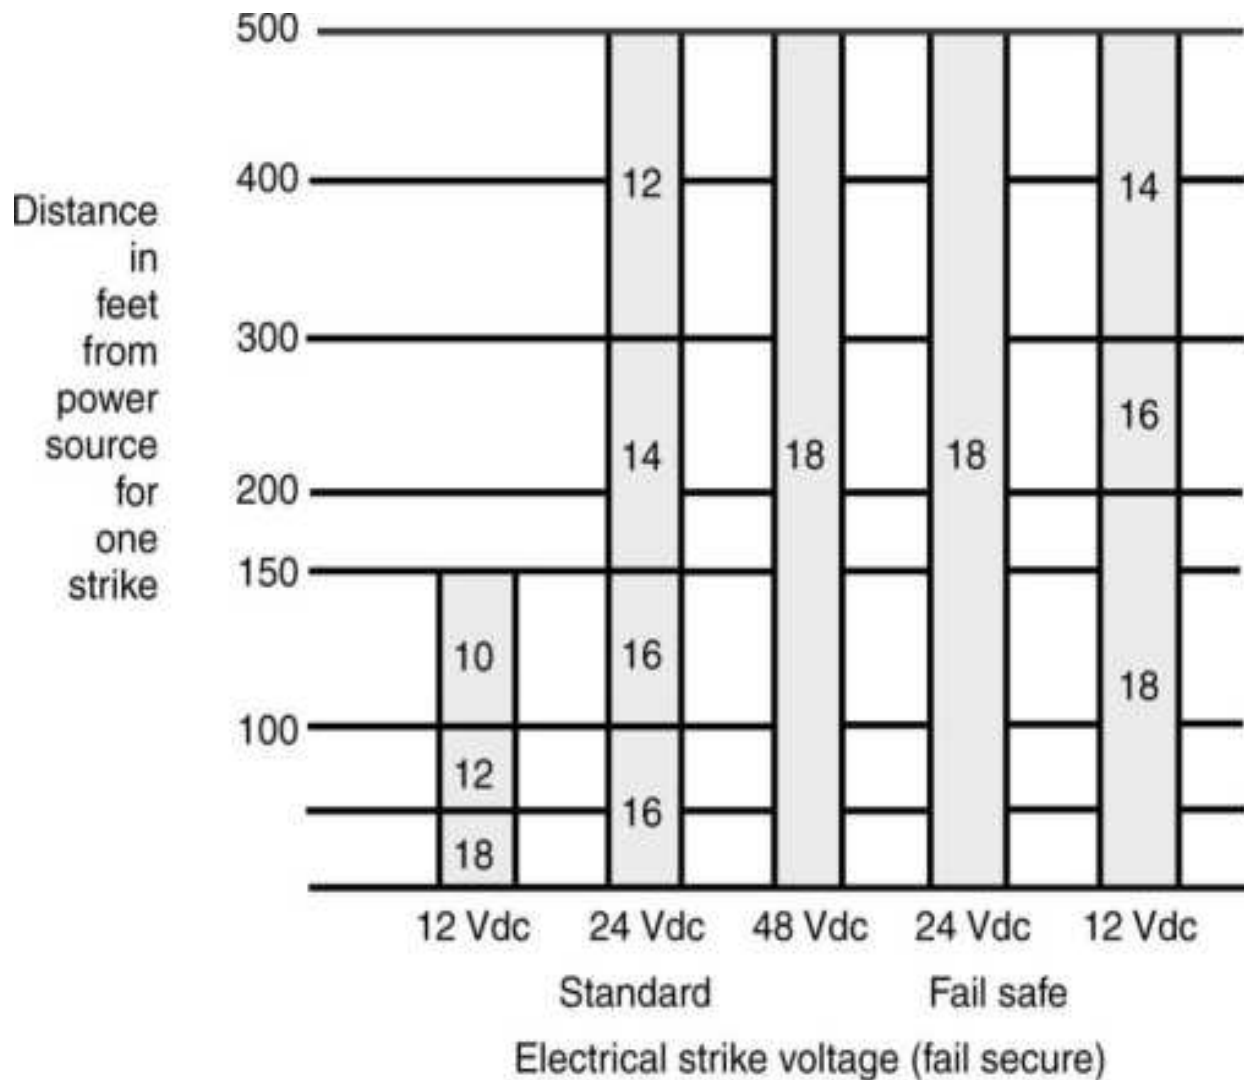

**Figure 19.29** Electrical strike voltage (fail-secure mode of operation). (Trine Consumer Products Division, Square "D" Company)
Due to the remote control applications for electrical strike units, there can be a considerable distance between the strike location and the actual control for that particular strike. Figure 19.29 shows the *minimum* wire sizes required for standard and fail-safe electrical strike unit voltage at various distances.
**After installation, the strike does not operate even if the power is left on for 1 minute (maximum time) and the strike is noticeably warm.** *Probable cause:* (1) Static loading against the door is excessive due to weatherstripping, a warped door, wind loading on the door, or improper jamb preparation.
*Probable cause* : (2) Insufficient voltage is reaching the strike due to an inadequate supply wire size.
*Corrections* : (2) Provide sufficient sized service wire (Fig. 19.29 ).